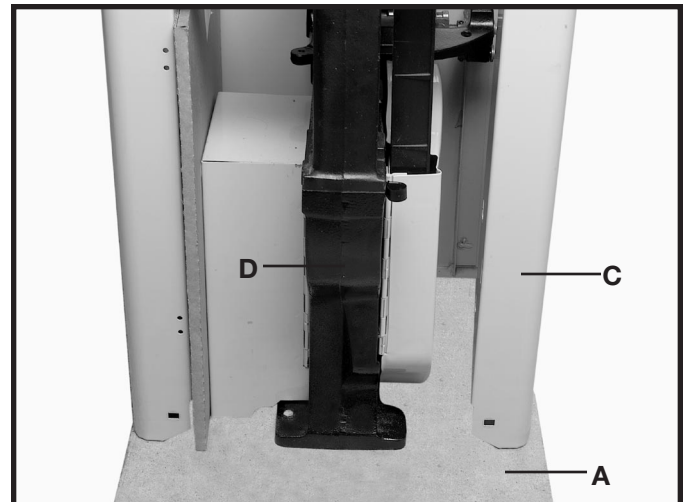

Fig. 3
3. Remove the bolts that attach the stand (C) Fig. 3, and the saw (D) to the the packing skid (A) with a 1/2" wrench.